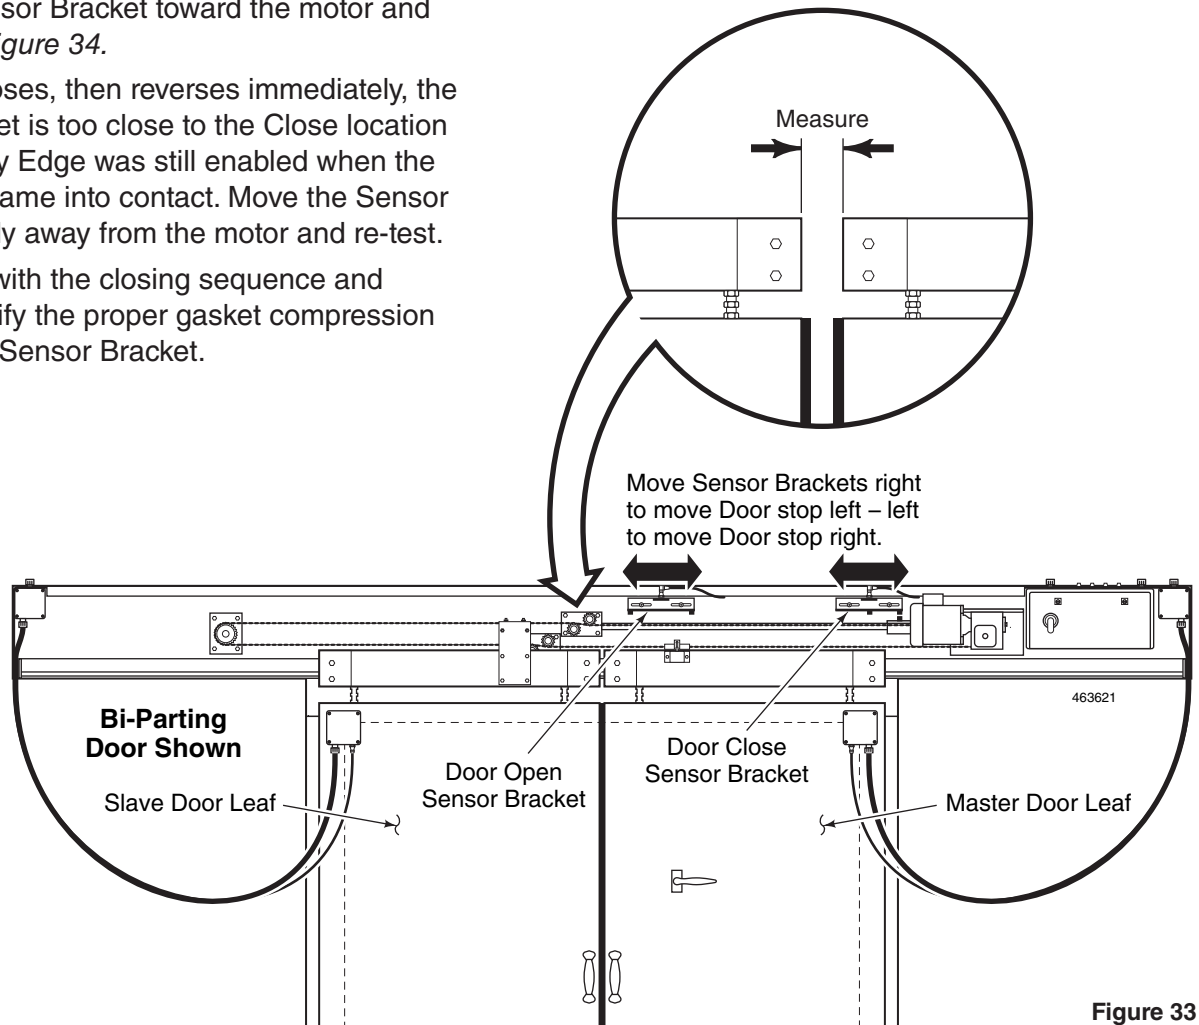

Figure 33
1. Move the Sensor Bracket fully away from the motor. Close the Door. The Door will stop prior to contact of the leading edge gaskets. Measure the distance between the Door Hanger Channels. See Figure 33.